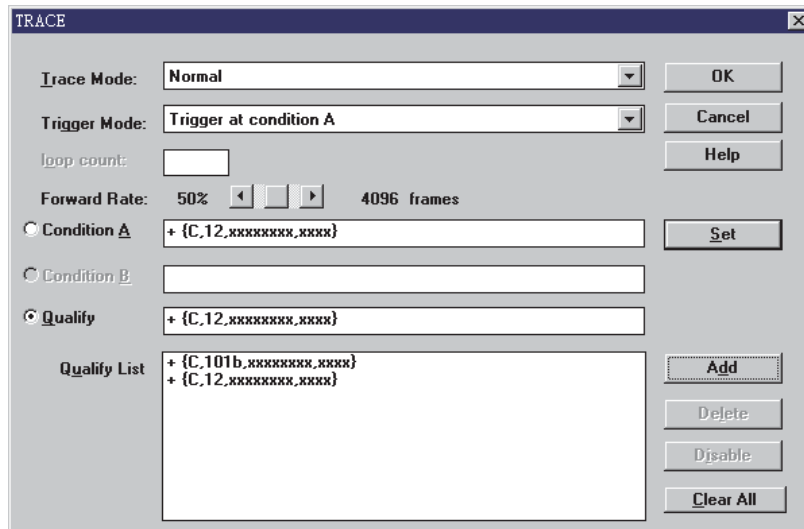

Fig 5-4
Fig 5-4 lists all the requirements to use the trace mechanism. This is the result of the Trace command from the Debug menu.
A Trace dialog box is displayed as in Fig 5-4.
A Trace dialog box is displayed as in Fig 5-4
A Trace dialog box is displayed as Fig 5-4.
- A Trace dialog box is displayed as in Fig 5-4